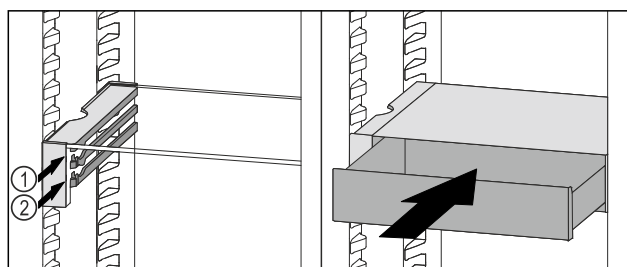

Fig. 124
- Place the VarioSafe drawer behind the stoppers on desired rib Fig. 124 (1) or Fig. 124 (2).